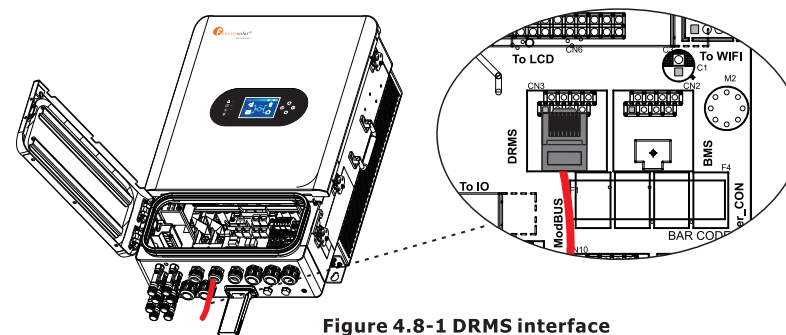

Figure 4.8-1 DRMS interface
Step 1. Open the latch from the right side of the machine. See Figure 4.8-1.